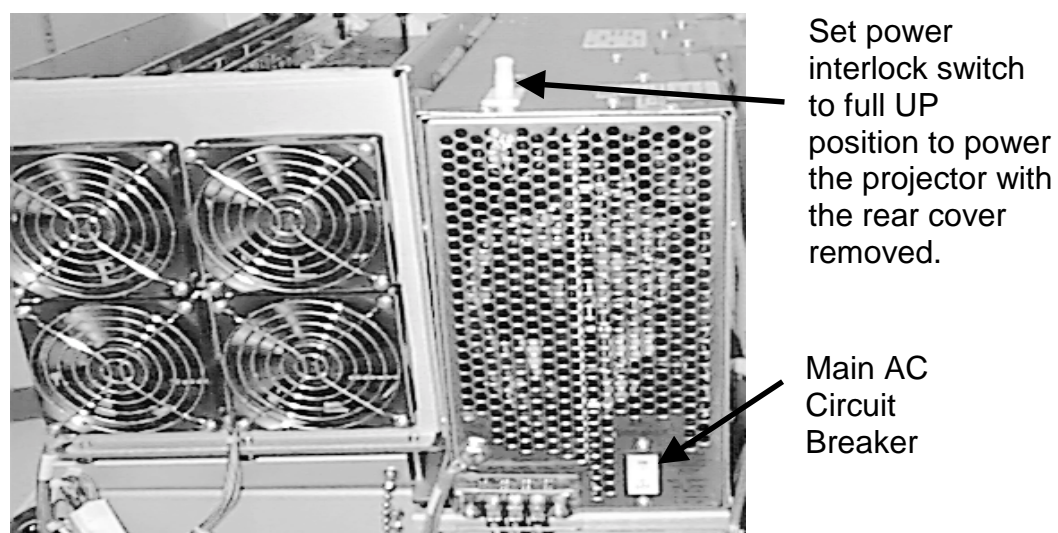

Figure 3-1 Power Interlock Switch and Main Circuit Breaker.
3. Turn on the main circuit breaker (located on the bottom, right side of the main power supply inside the projector in (see Figure 3-1). This switch turns on the +5V standby power supply for the main processor.
4. Replace the rear cover on the projector or set the power interlock switch, on top of the system power supply, to the full UP position (see Figure 3-1).
The CRT deflection yokes are factory set. If the CRT image is not level, adjust the individual CRT deflection yoke as required (see Figure 3-1).
The horizontal width coils are factory adjusted and will not normally need adjustment. In general, if the R and B vertical lines are within two (2) crosshatch lines of each other, they can be brought in line with the Convergence procedure. If the R or B horizontal size does not match G within two crosshatch lines, adjust the Horizontal Width coils on the R and B Deflection Yokes (refer to Figure 3-1). The width coils are mounted on a small circuit board on top of the Yoke assembly inside a white ceramic holder and the adjustment is accessed from the opening at the end of the ceramic holder.